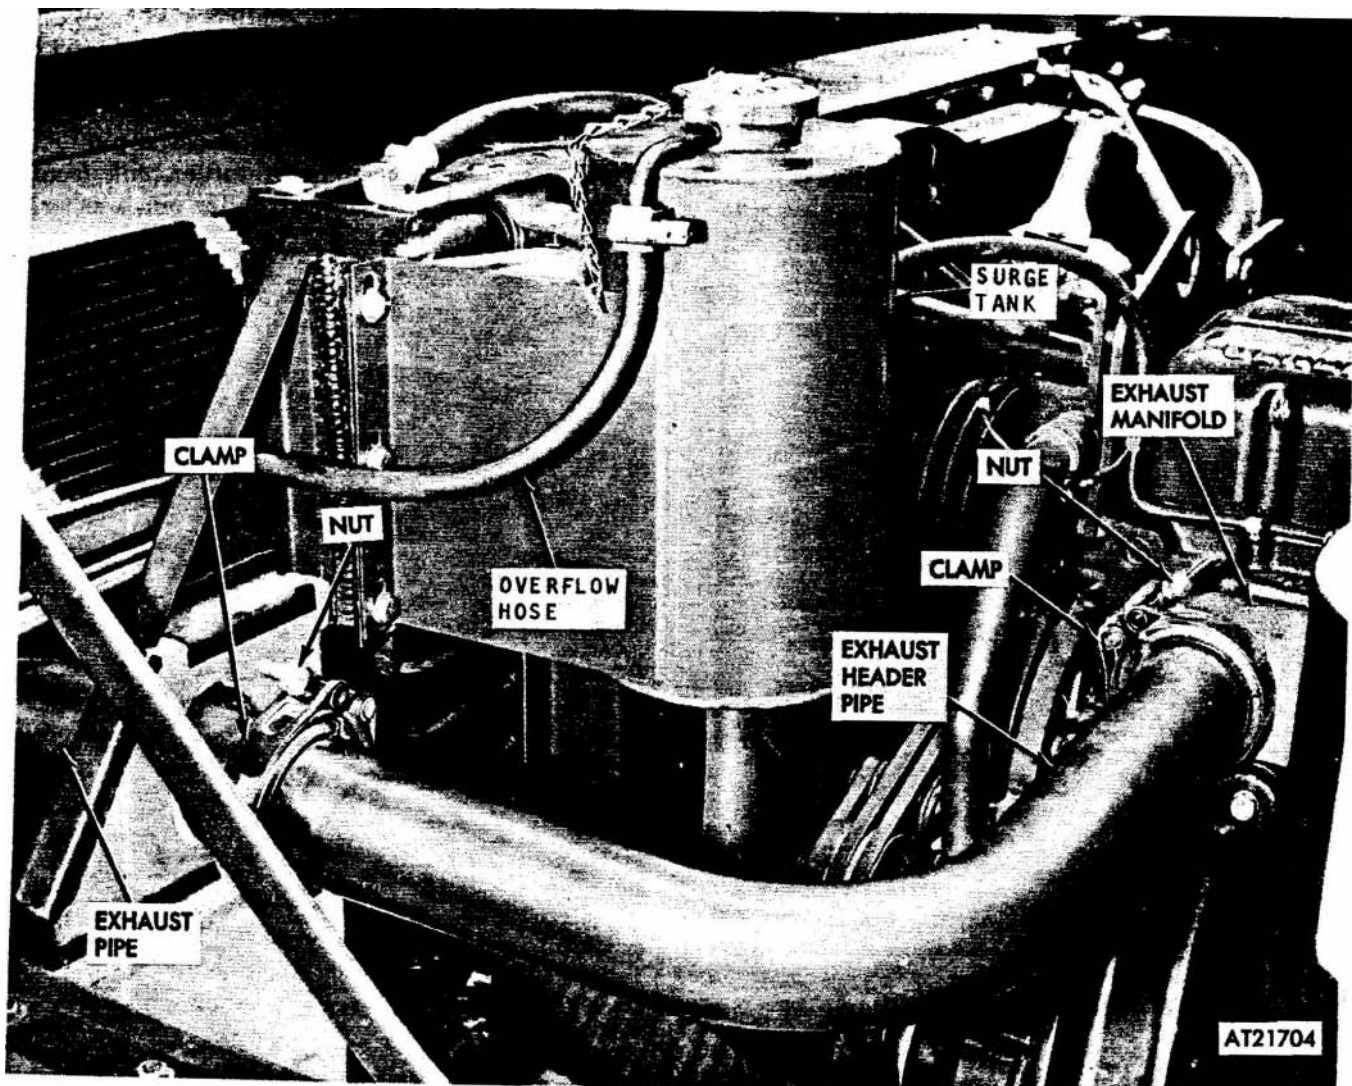

Figure 2-50. Exhaust header pipe and surge tank overflow hose.
- (6) Disconnect negative battery ground terminal clamp by loosening nut on clamp.
- (7) Remove exhaust header pipe and clamps by removing nuts from clamps securing header pipe to exhaust pipe and exhaust manifold outlet (fig 2-50).
(8) Remove surge tank overflow drain hose from tube on filler neck by loosening clamp and removing hose (fig 2-50).
(33) Position exhaust header pipe to **exhaust pipe and manifold**. Install two clamps and alternately tighten clamps (fig 2-50).
(34) Install surge tank overflow drain hose on surge tank and tighten clamp (fig 2-50). Connect negative terminal to battery and secure by tightening clamp.
(35) Remove filler plug on secondary fuel filter and fill with fuel.